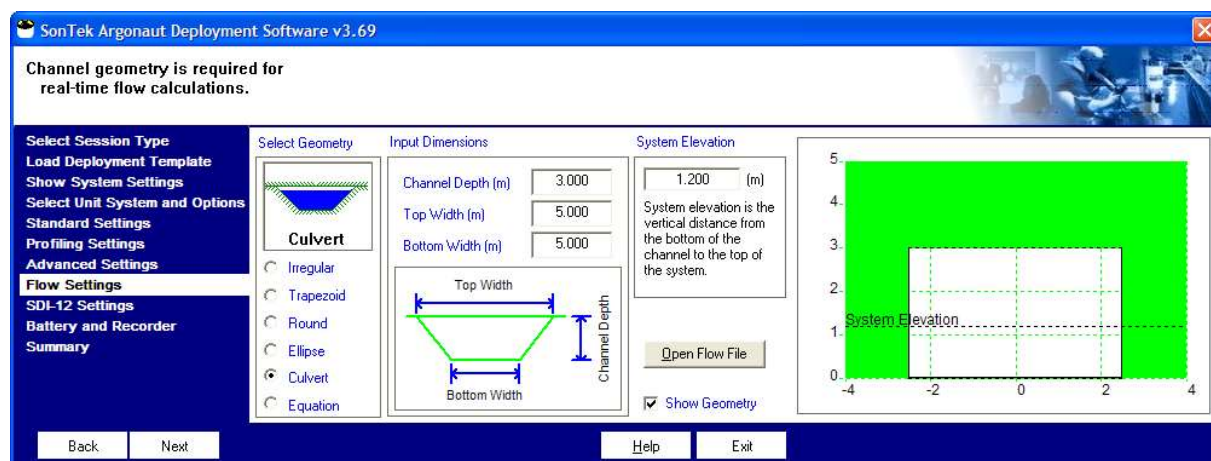

Figure 5-40. Deployment Software: Culvert Geometry
- Culvert Channel Type (Figure 5-40)
Figure 5-40 shows the screen for Culvert channel type (normally a concrete-lined channel with a closed top). The following parameters are specified in this screen. When all parameters are correctly specified, click **Next** to continue.
- **System Elevation:** This is the vertical distance from the bottom of the channel to the top of the system. See **Figure 5-40**.